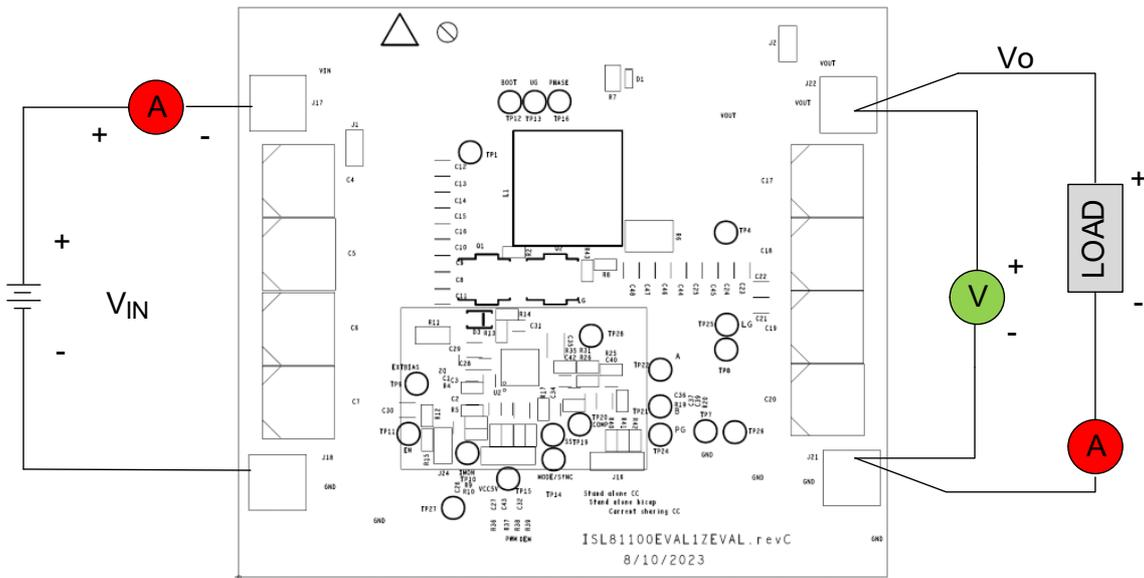

Figure 3. Proper Test Setup
As shown in Figure 3, 18V to 100V  $V_{IN}$  is supplied to J17 (+) and J18 (-). The regulated 12V output on J22 (+) and J21 (-) can supply up to 10A to the load. Due to the high power efficiency, the evaluation board can run at 10A continuously without airflow at ambient room temperature conditions.
1. Jumper J15 provides the option to select PWM or DEM. Jumper J16 provides the option to select a constant current limit or HICCUP. See Table 2 for the operating options. Ensure that the circuit is connected correctly to the supply and electronic loads before applying any power. See Figure 3 for the proper setup.